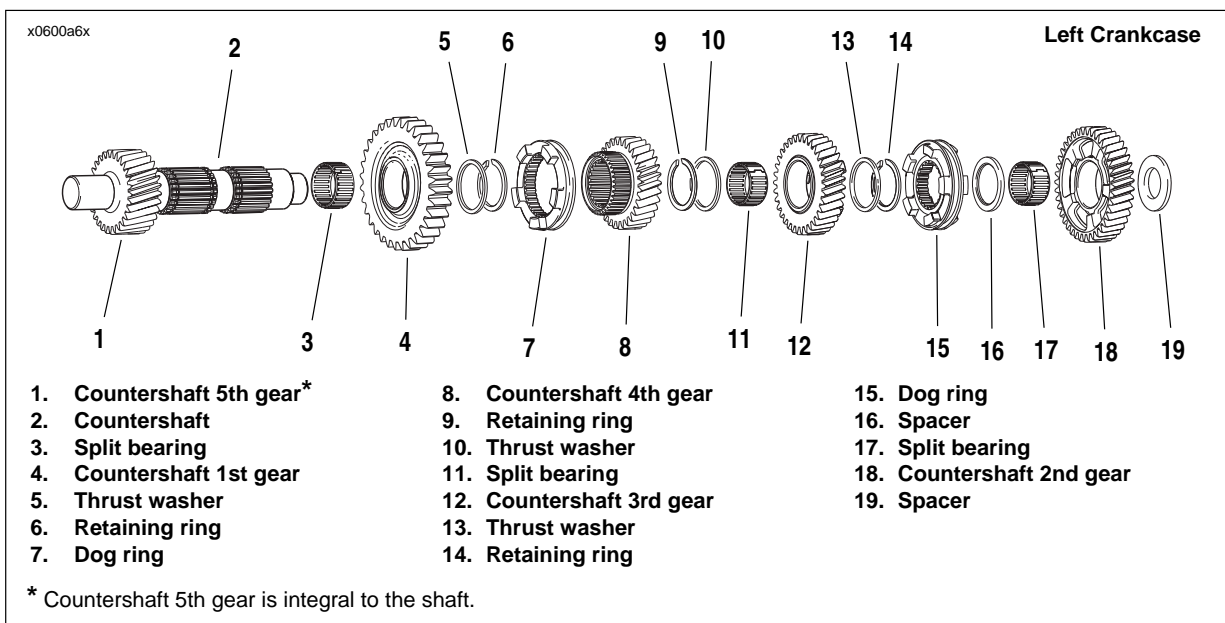

Figure 6-63. Transmission Countershaft Assembly Once Removed from Left Crankcase/Disassembly
1. See Figure 6-63. Remove spacer (19) and 2nd gear (18) from the end of the of the countershaft (2). Remove and discard split bearing (17).
2. Remove spacer (16).